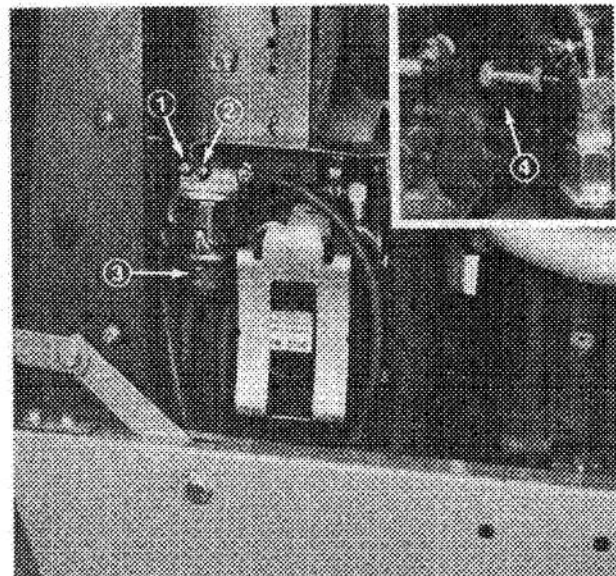

Figure 14
2. Loosen screw No. 1 on top of fuel filter (Fig. 14).
4. Continue until a solid stream of fuel flows out around screw. Turn screw No. 1 to closed position and open screw No. 2 (Fig. 14).
6. Open the air bleed screw on the fuel injection pump (Fig. 14 inset) with a 12 mm wrench. Tighten screw when solid stream of fuel flows out around screw. Turn key off.